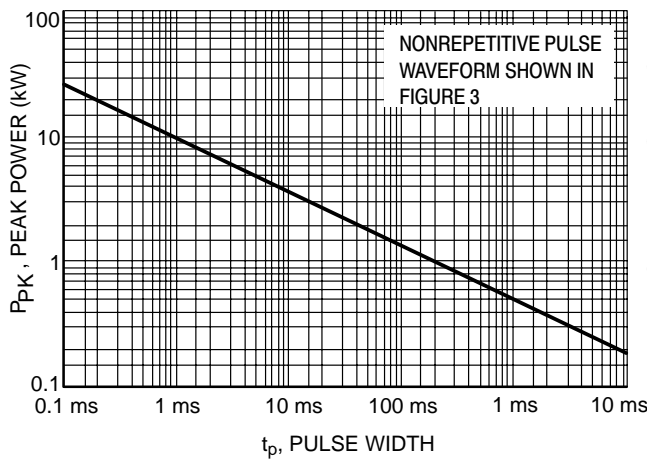
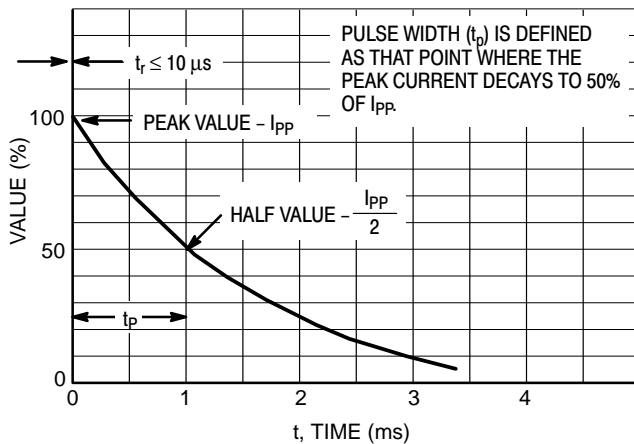

Figure 1. Pulse Rating Curve
Figure 3. Pulse Waveform
- Surge current waveform per Figure 3 and derate per Figures 1 and 2.